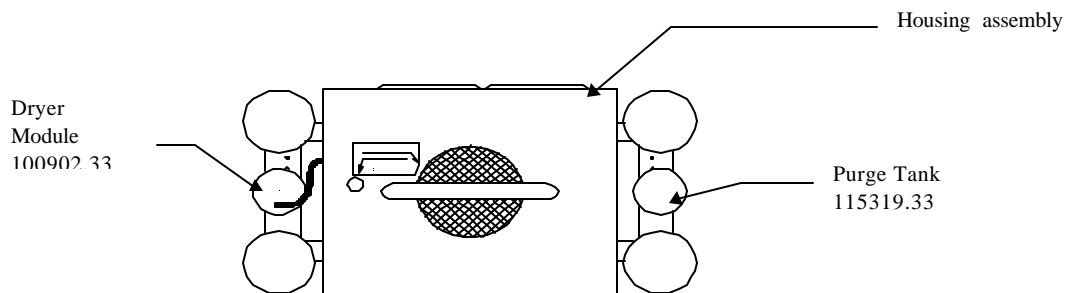

Figure 2
- The air drying system consists of a dryer module and a purge tank. The dryer module is the small center tank that has a black air line attached to the top. The drying module's main purpose is to extract any moisture that may exist within the system and deliver dry pressurized air to the main air line. The purge tank is the center tank located on the opposite side of the dryer module. The purge tank's purpose is to dry the crystals in the dryer module canister (figure 2).